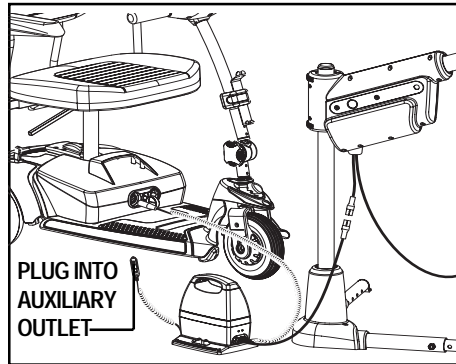

Figure 6. Charging A Mobility Device
2. Plug the charger cord into the off-board charger port on the mobility product. See figure 6.